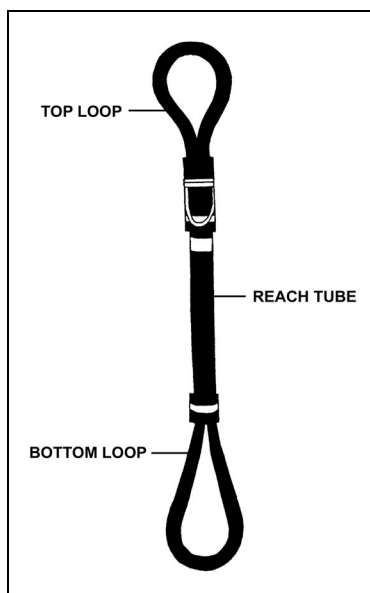

Figure 5-5. Reach pendant.
d. **Reach Pendants**. A reach pendant is a synthetic rope assembly with an attached, stiffened reach tube and a loop on each end. The built-in reach tube enables the hookup man to place the pendant's top eye on the helicopter cargo hook while the helicopter hovers at a higher distance over the load (Figure 5-5, page 5-6). Two reach pendants are authorized for use with slingloads. To use either pendant with a sling set, remove the sling set apex fitting pin; place the pendant's lower eye in the apex fitting; and reinstall the apex fitting pin.